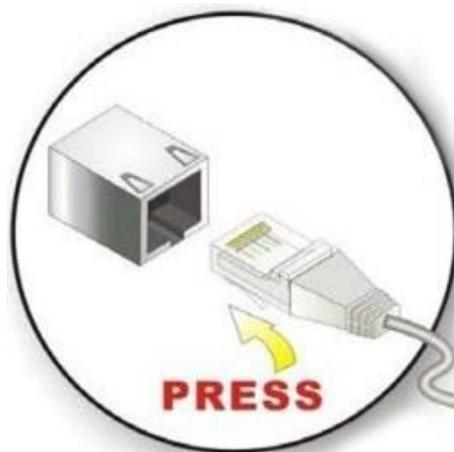

Figure 2-6 LAN connection
Step 2: Align the RJ-45 connector on the LAN cable with one of the RJ-45 connector on the bottom panel of the WPxxx1T-C (see Figure 2-6). Then, gently insert.